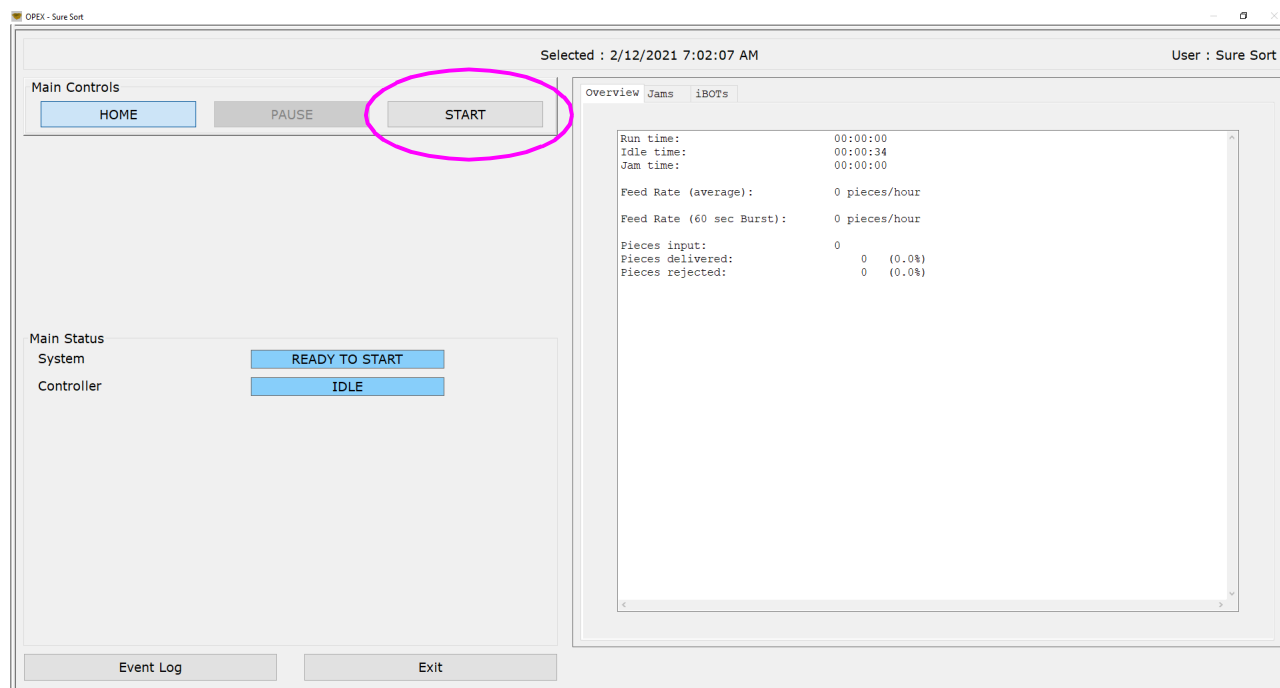

Figure 4-27: OPEX Host Run Screen
1. On the OPEX Host Run Screen, click **START** (see Figure 4-27). At this point, the conveyors will start to run, and the iBOTS will cycle, so that they maintain their charge in preparation for delivering items to bins.